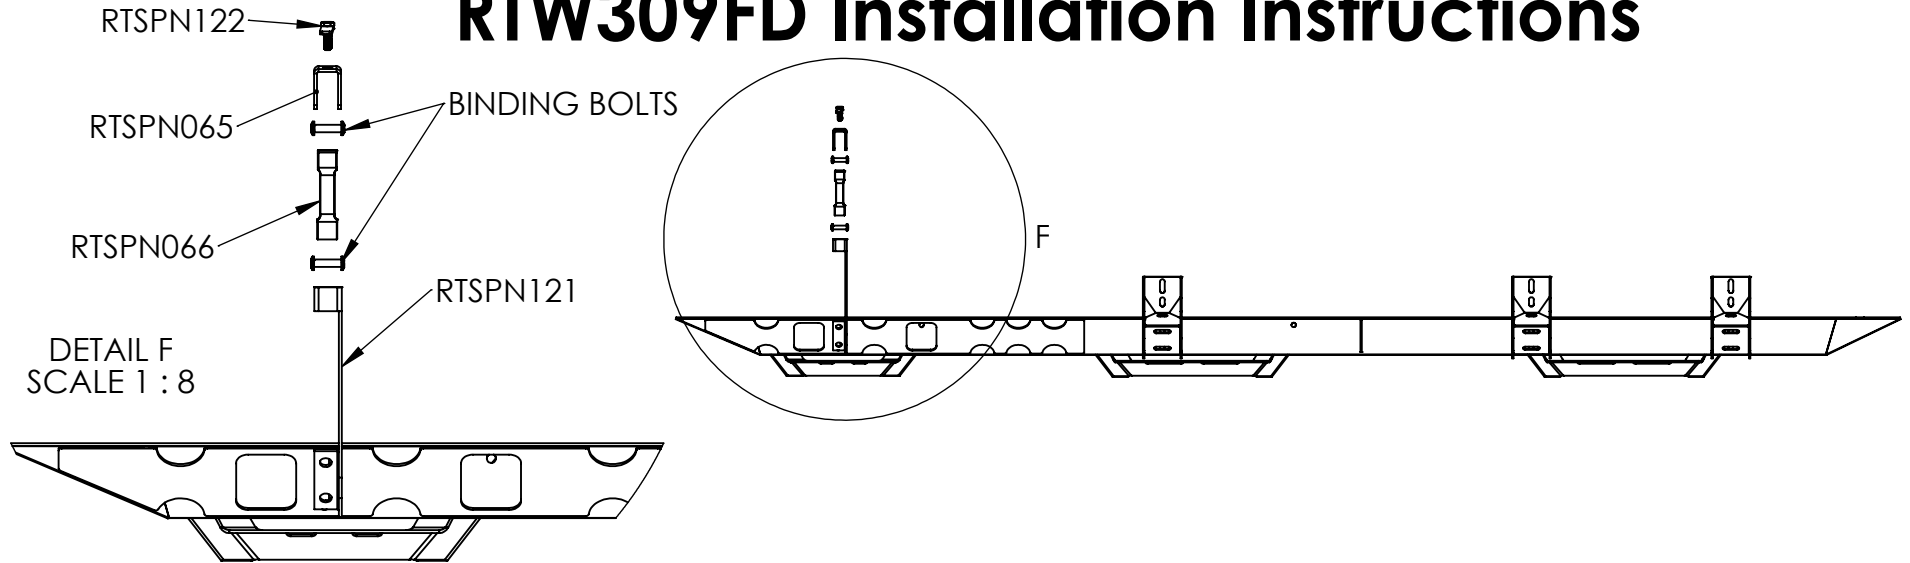

Figure 1
2. Locate the mounting hole underneath the front part of the bed (SEE FIG. 1).